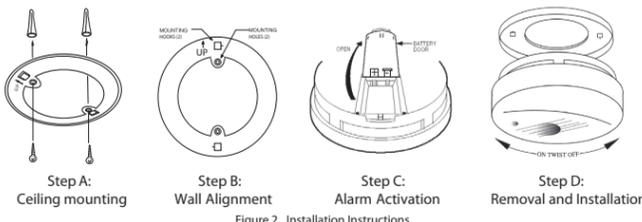
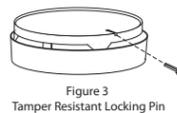

Figure 2. Installation Instructions
Figure 3
6.4 As described in Figure 2, attach the mounting plate on the wall or ceiling. Use the screws and anchors provided to secure the mounting plate.
6.7 To make your carbon monoxide alarm tamper resistant, a locking pin has been provided in the bag with the screws and anchors. Using this pin will deter children and others from removing the alarm from the mounting plate. To use the pin insert it into the hole in the side of the alarm after the alarm has been installed on the mounting plate (See Figure 3). Note the tamper resist pin will have to be removed in order to change the battery; this can be done easily with a long nose pliers. Using the long nose pliers pull the pin out of the hole, it is now possible to remove the alarm from the mounting plate.
- 8.2. To clean your alarm, remove it from the mounting bracket as outlined in Figure 2 Step D: Installation/Removal. IF TAMPER RESISTANT PIN HAS BEEN USED, REFER TO STEP 6.7 UNDER INSTALLATION INSTRUCTIONS FOR REMOVAL INSTRUCTIONS. (See Figure 3)